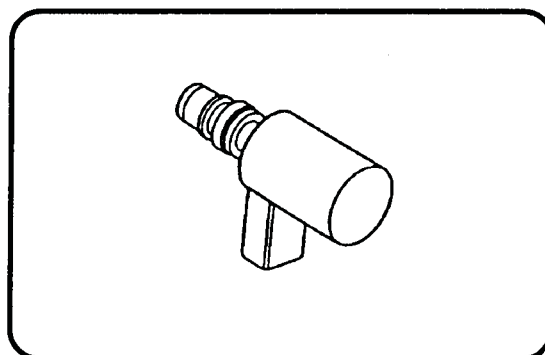

Figure 48
**Variable Force Solenoid** - A VFS solenoid is used to control shift feel by controlling line pressure. Based on the selective grounding action of the EEC-IV processor, the solenoid varies its output pressure. This VFS solenoid is referred to as the **ELECTRONIC PRESSURE CONTROL SOLENOID (EPC)**. This sensor can fail and cause either high or low EPC pressure which can result in soft or harsh shifts (see figure 48). Refer to page 53 for EPC check.